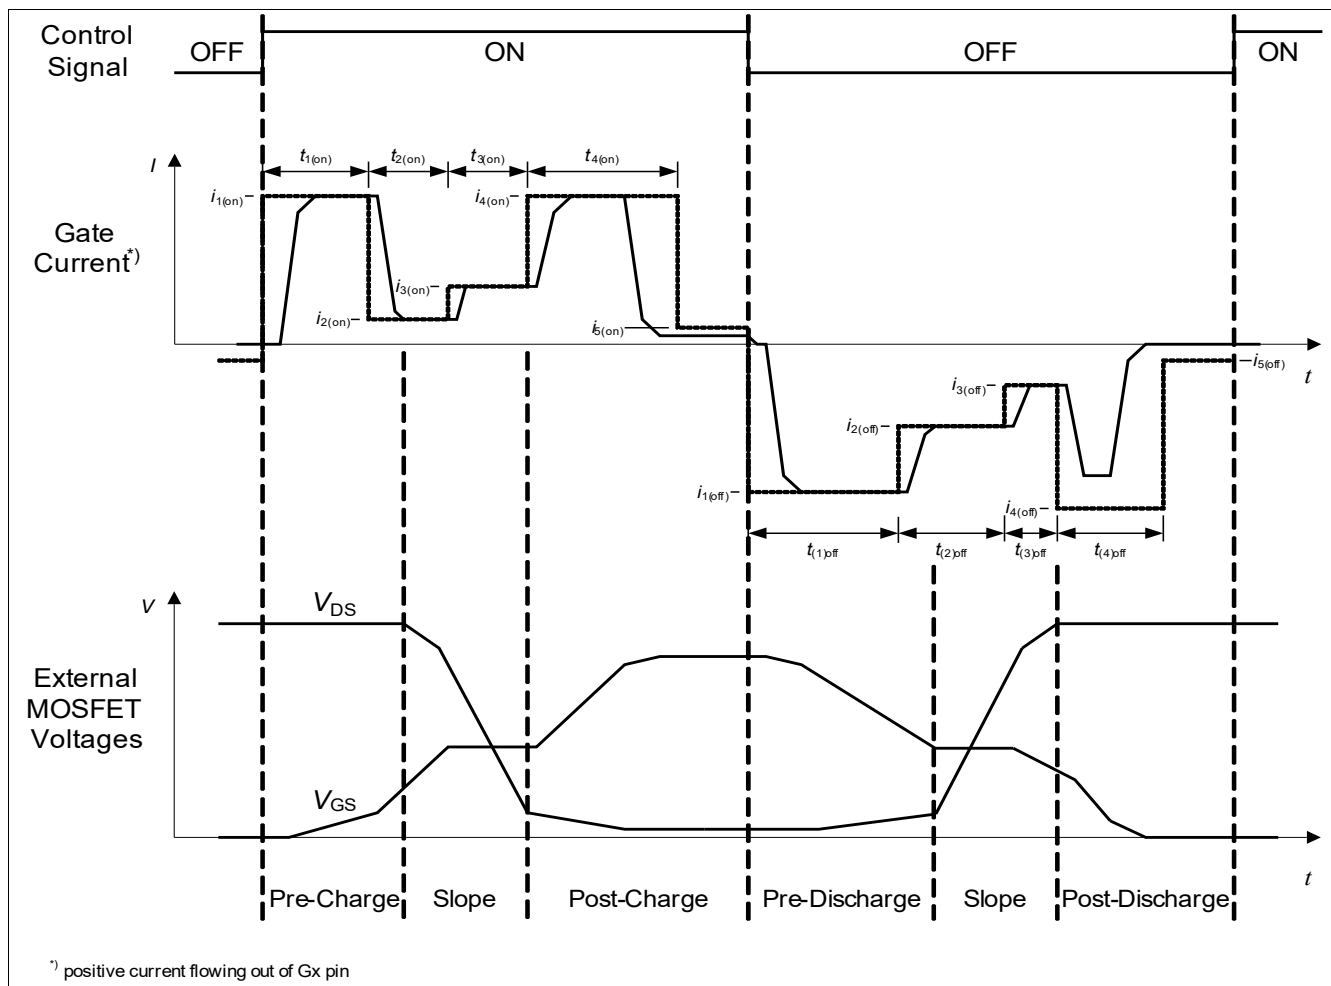

Figure 37 Gate current set point values generated by the sequencer
- In sequencer mode an advanced gate current profile is defined by SFRs where the gate charging phase and the gate discharging phase each are split into consecutive sub phases with individual current set point values and duration values (see Figure 37):